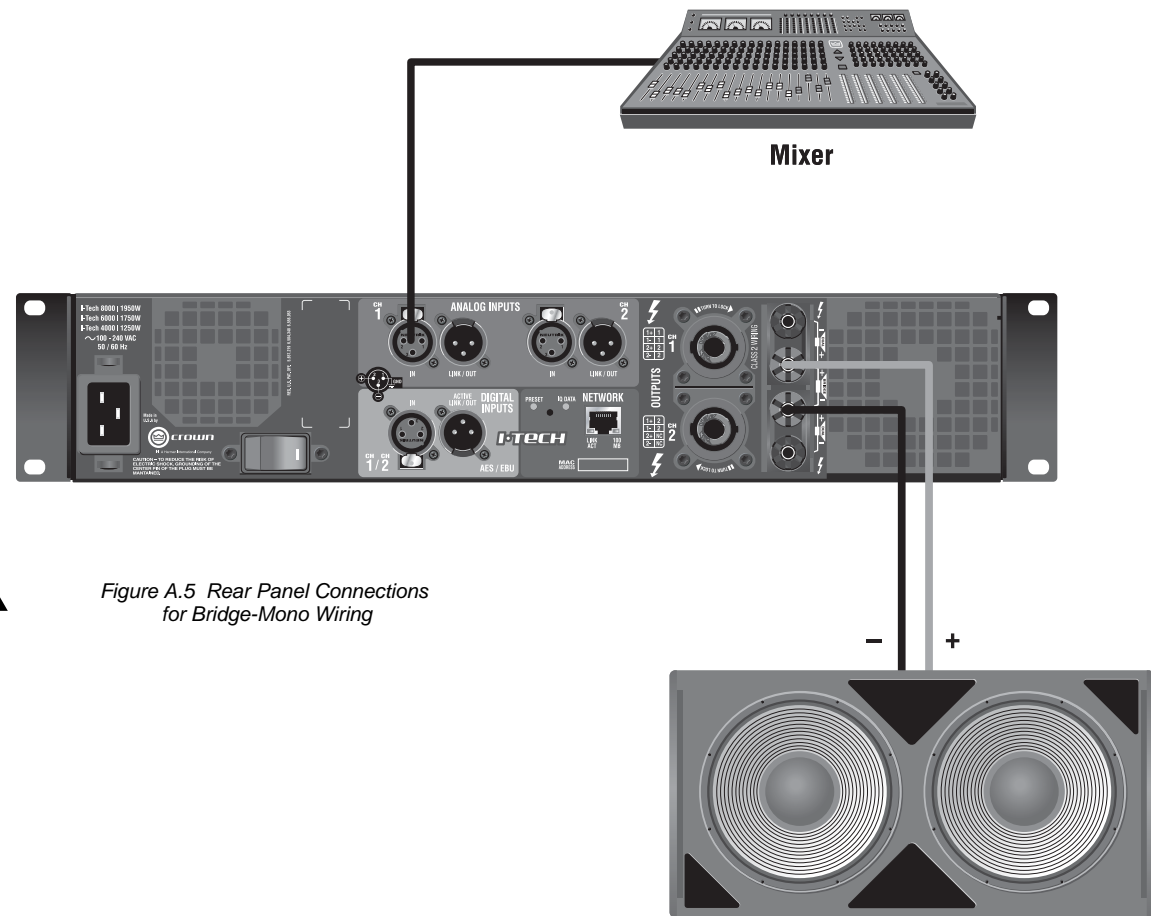
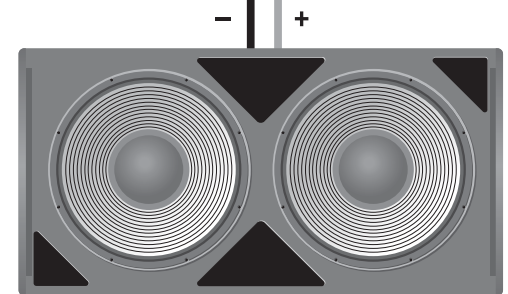

Figure A.5 Rear Panel Connections for Bridge-Mono Wiring
Figure A.6 Wiring a Speaker to the Top Speakon Connector for Bridge-Mono Operation
6. See Figure A.5. Connect a cable from your mixer output to the amplifier's Channel-1 XLR input connector.
7. Using Class 2 wiring, connect the speaker cable either to the amplifier's top Speakon connector (terminals 1+ and 2+, Figure A.6) or across the red binding posts of both channels (Figure A.5). Do not use the black binding posts in bridge-mono mode.